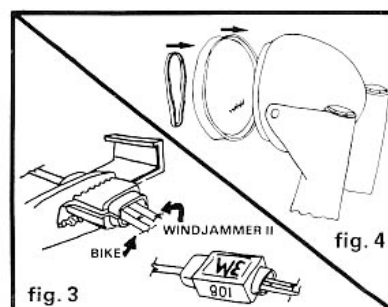

fig. 3
6. Splice the Windjammer II wires into the bike's electrical system inside the headlight nacelle with the blue clip-on connectors (**PLEASE NOTE: IT IS NOT NECESSARY TO STRIP OR CUT ANY WIRES!**) - see figure 3. Refer to the Special Supplementary Instructions sheet for wire color code information for your bike.